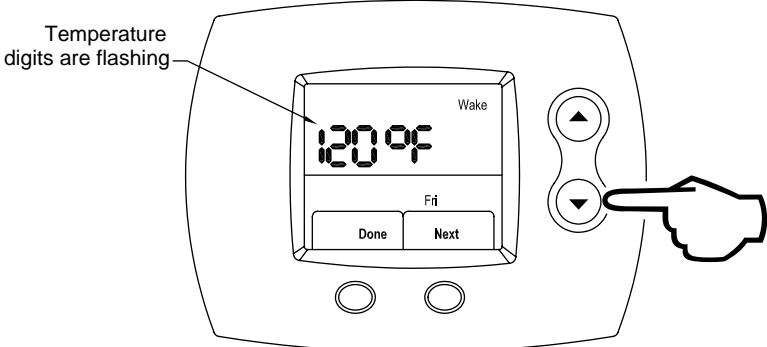

Figure 125
Step 8: Using the **UP** (increase water temperature) or **DOWN** (decrease water temperature) buttons, select the Wake period desired water temperature. This is shown in Figure 125.